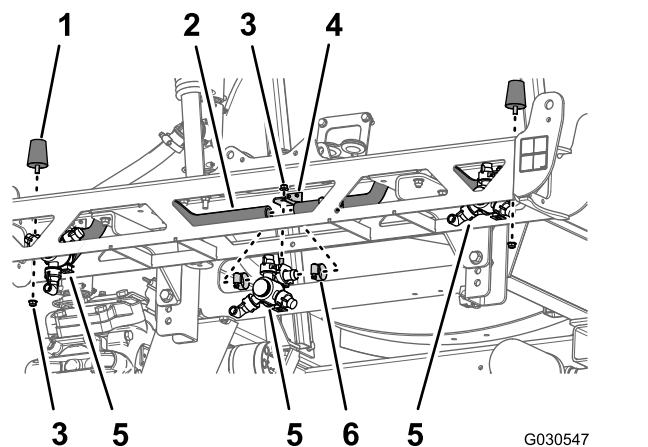

Figure 78
- Remove flange locknuts (5/16 inch) that secure the left and right bumpers at the ends of the frame of the center boom section (Figure 78).
- Remove 4 hose clamps that secure the 3 sprayer nozzles to the hoses (3/4 inch inside diameter) (Figure 78).
- Remove the flange locknut (5/16 inch) that secure the 3 sprayer nozzles to the nozzle mounts of the center boom section, and remove the nozzles (Figure 78).